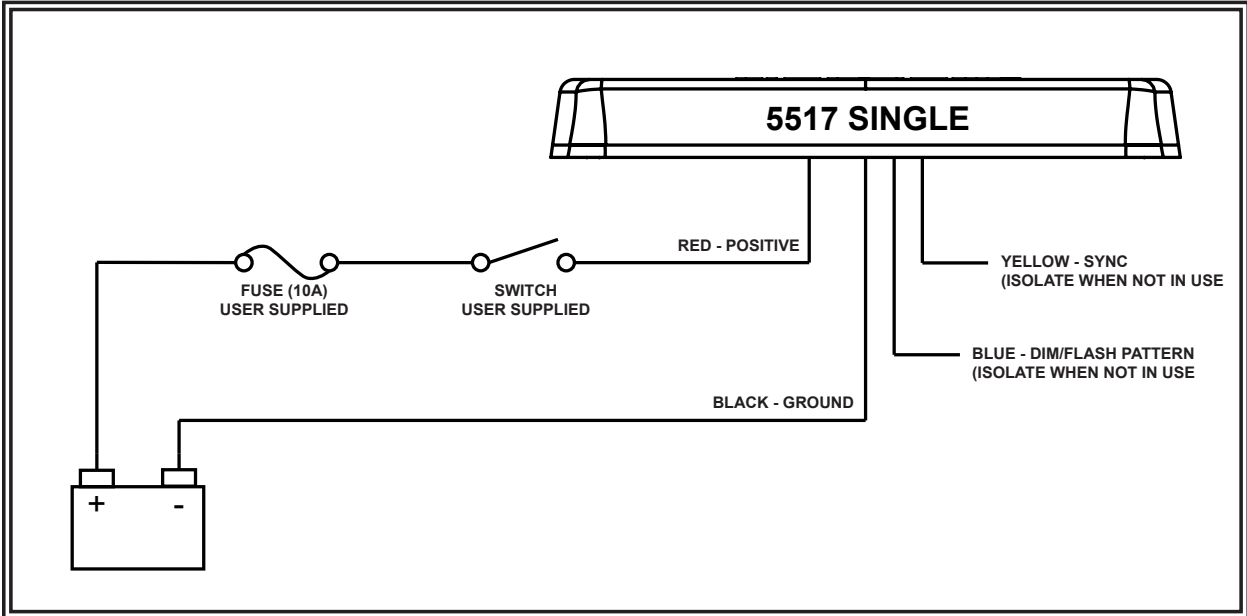

Figure 3
5. Connect the power wires as shown in the wiring section (see Figures 3 & 4).
The wiring for the permanent mount microbar is as shown in Figure 3 & 4. All wiring should be a minimum of 18AWG. The positive line must have a 10 amp fuse, as shown. A switch may be used to control the on/off function.